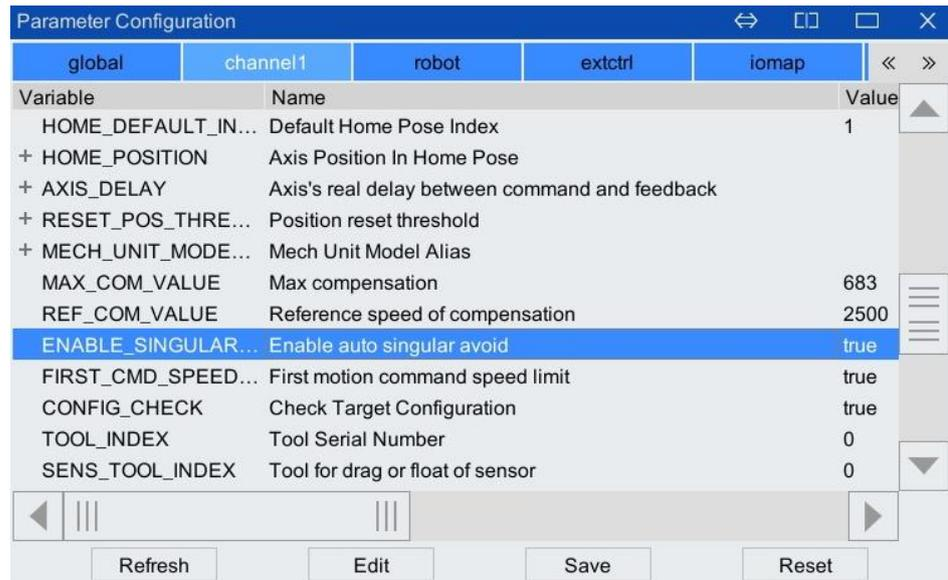

Figure 10-5 [Channel] tab
Step3. In the [Channel] tab, select [Whether to turn on the automatic singular point avoidance function (ENABLE_SINGULAR_AVOID)] and click the <Edit> button. As shown in Figure 10-5.